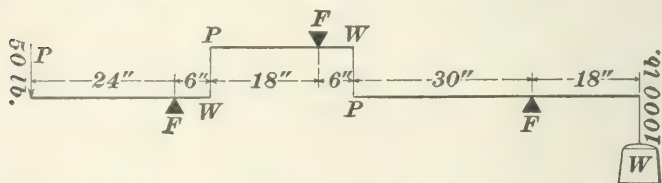

FIG. 8.
Fig. 8 shows a compound lever. It will be seen that when a force is applied to the first lever at P it will be communicated to the second lever at P , from this to the third lever at P , and thus raise the weight W .
EXAMPLE.—If, in Fig. 8, $PF = 24$ inches, 18 inches, and 30 inches, respectively, and $WF = 6$ inches, 6 inches, and 18 inches, respectively, how great a force at P will it require to raise 1,000 pounds at W ? What is the ratio between W and P ?
2. If, in Fig. 8, $PF = 10$ inches, 12 inches, 14 inches, and 16 inches, respectively, and $WF = 2$ inches, 3 inches, 4 inches, and 5 inches, respectively, (a) how great a weight can a force of 20 pounds raise? (b) What is the ratio between W and P ? (c) If P moves 4 inches, how far will W move?